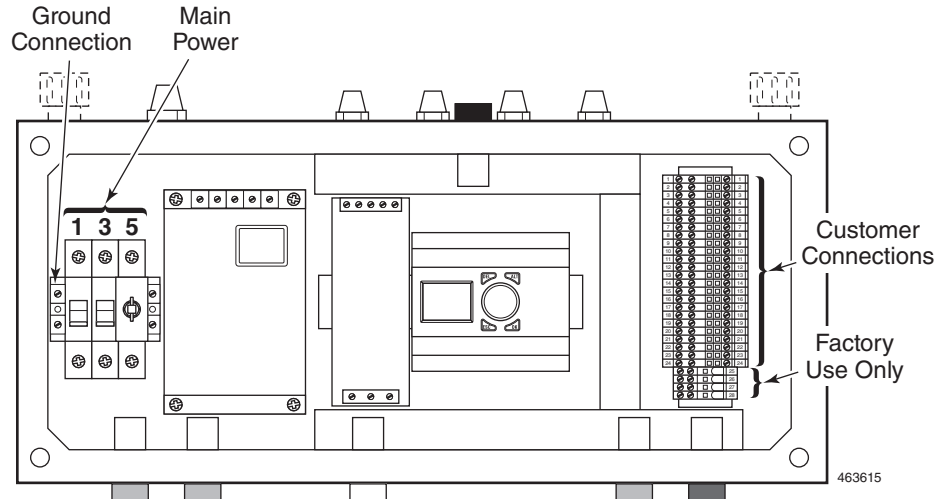

Figure 21
1. Install conduit and wire from the breaker panel to the left side of the control panel. See Figure 21.
3. On 3-phase systems, connect each phase to breaker poles 1, 3, and 5. On single phase systems, connect each Phase to breaker poles #1 and #3 (breaker pole #5 is not used). See Figure 21.
Door control signal wiring is done at the terminal blocks located inside the Control Panel, on the right side. See Figure 21. There are many signals used to control the door Operator. The most common are pull cord switches or stations, three button stations (i.e. open, close, stop) and radio control. All three may be used separately, in combination, or all together. The control circuit is 24 VDC. Consult local electrical codes before proceeding with permanent installation.
7. Connect the wires of one of the pull cord switches to terminal blocks #5 and #9. See Figure 21.
Connect Input/Output wires in a manner similar to the pull cord wires (above). Refer to the *Terminal Blocks* section of the *R-Plus Doors ICC-5 Operator Quick Reference* manual and to the *Input/Output Guidelines* sheets to know where and how to connect these devices. See Figure 21.